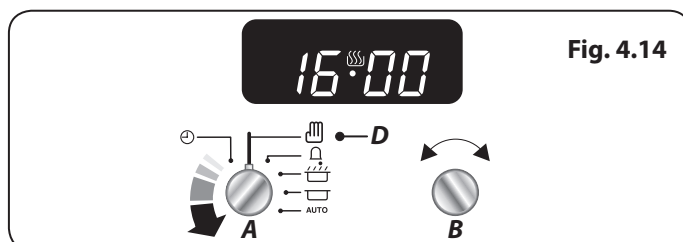

Fig. 4.14
To cancel any automatic settings turn the **Timer (A)** knob to the **Manual (D)** setting and release (**Fig. 4.14**).